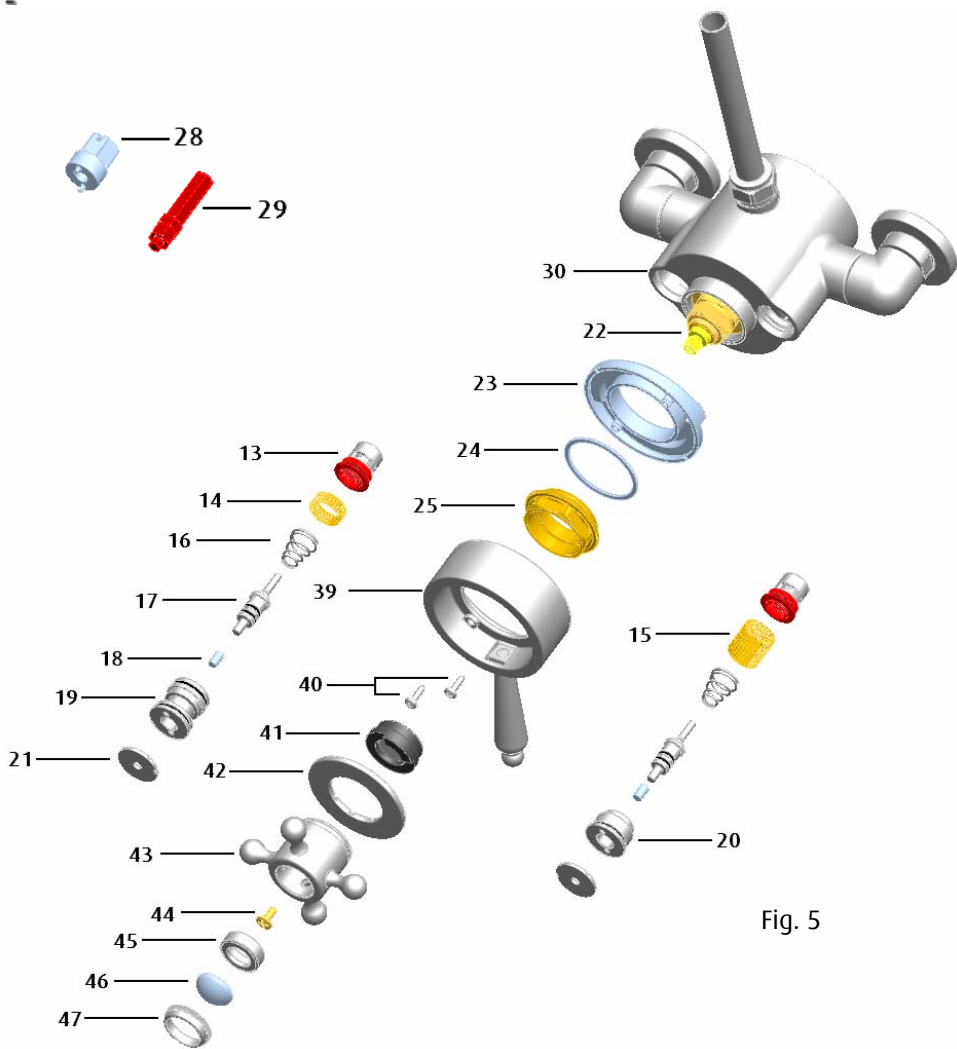

Fig. 5
8.6 Cleaning the Filters (See Fig. 5)
8.7 Flow Valve Maintenance (See Fig. 5)
7.2.1 Check hot and cold inlet valves (13 fig. 5 Page 13) are free of debris (See 8.7 on page 13).
7.3.1 Check that the filters (14 & 15, fig. 5 Page 13) are not blocked (See 8.6 on page 13).